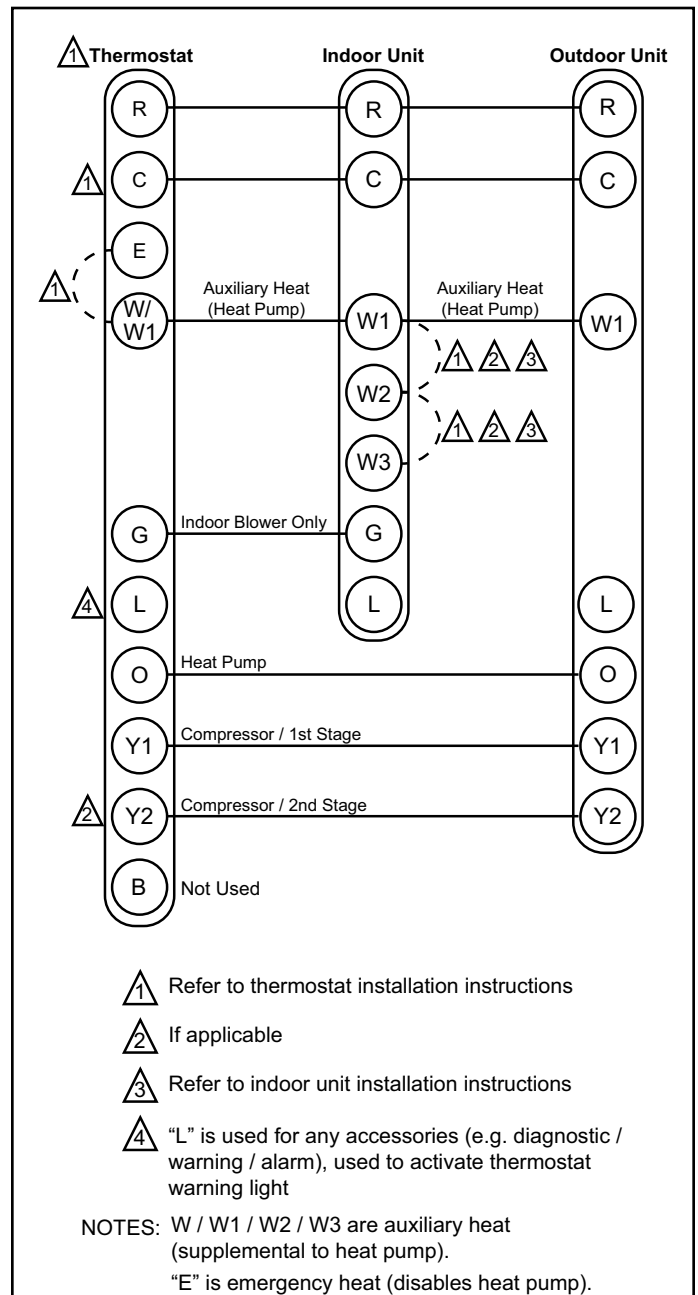

Figure 3. Thermostat Designations - Non-Communicating
- Typical unit wiring (as well as wiring of optional field-installed electric heat) is given in Figure 3. Refer to the instructions provided with the electric heat section for proper installation.